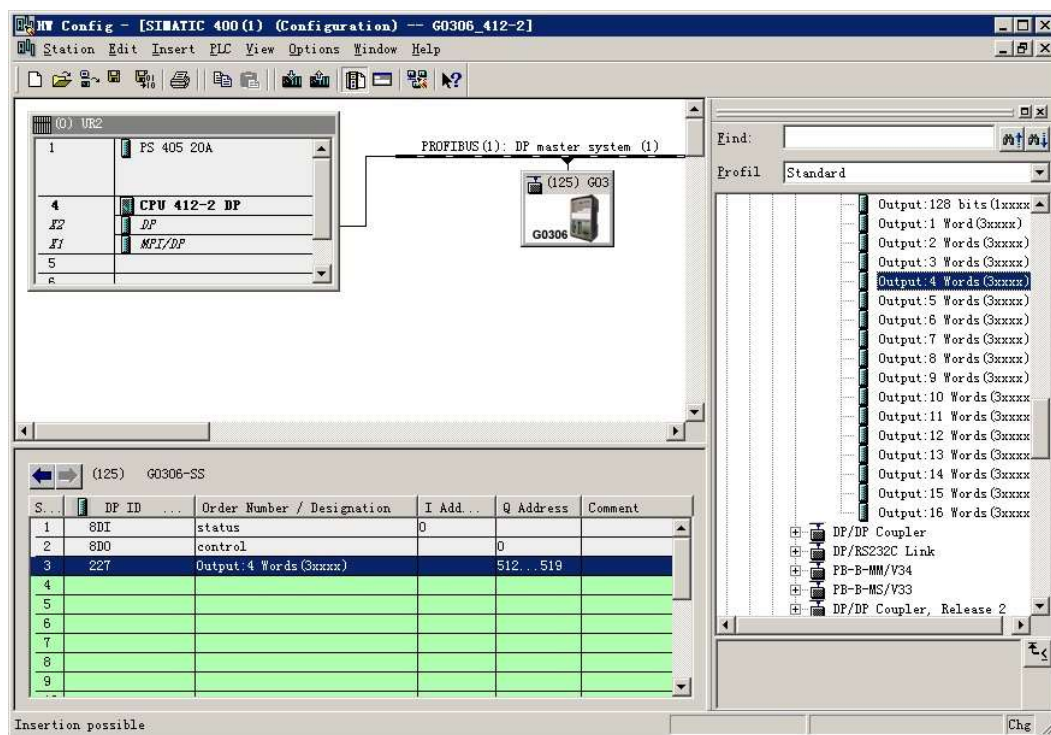

Figure 48 Add "Output:4 Words (3xxxx)" module
a) Add "Output:4 Words (3xxxx)" module, as shown in Figure 48: